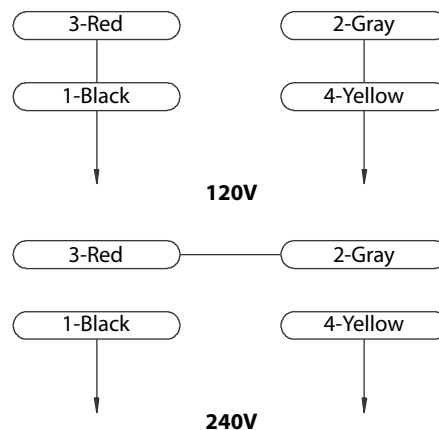

Figure 6 – Wiring Diagram
- Motor and wires are installed as shown in wiring diagram (See Figure 6). Motor is assembled with approved, 3-conductor cord to be used at 120/240 volts. Motor is prewired at the factory for 120 volts.